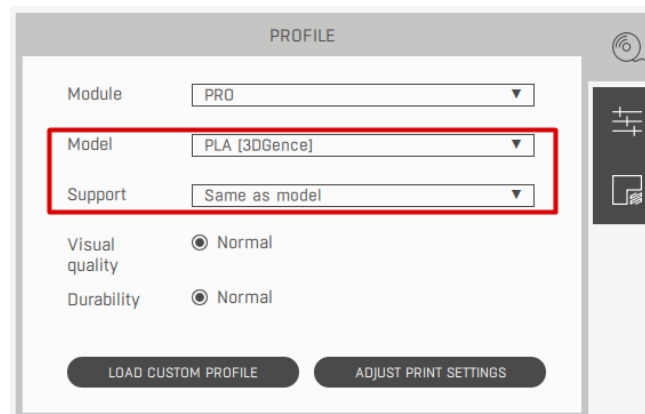

Fig. 32 Profile for two-material printing
3. Select the print profile in which the model material is PLA [Verbatim] or PLA [3DGence] and the support material is the same as the model material (Fig. 32). The profile for two-material printing has not been prepared for all double-hotend printers.